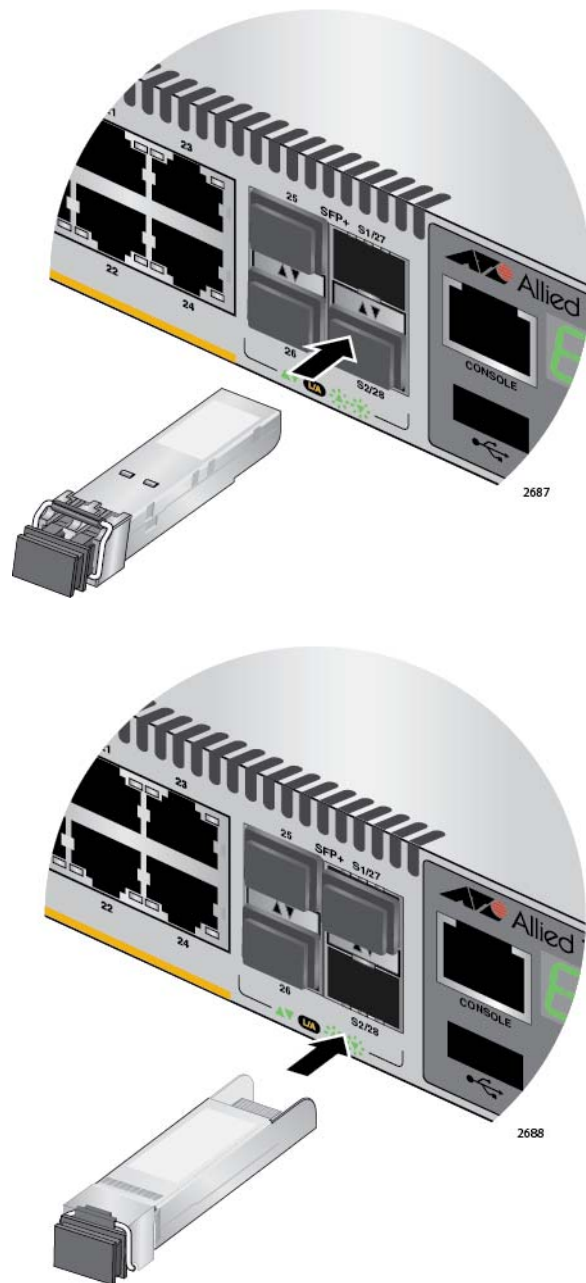

Figure 35. Installing the AT-StackOP/0.3 or AT-StackOP/9.0 Transceiver
3. Slide the transceiver into the slot until it clicks into place, as shown in Figure 35 on page 76.